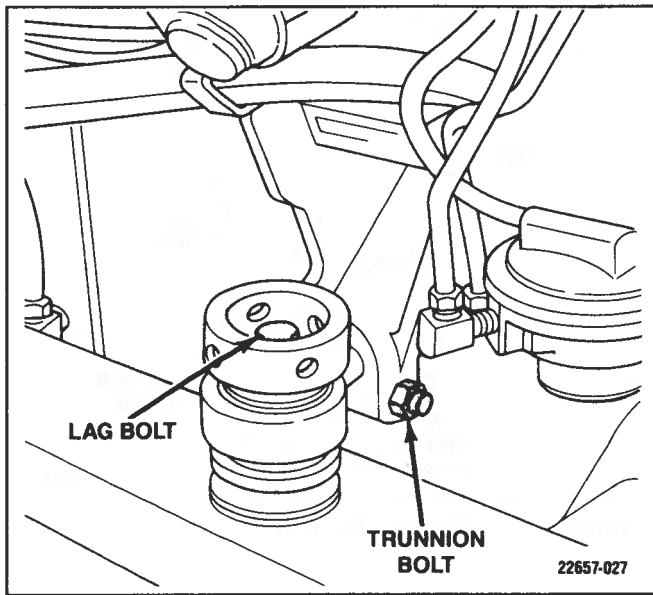

Figure 2-9. *Securing Engine Mount*
6. After the engine has been properly aligned, secure the engine mounts (Figure 2-9).